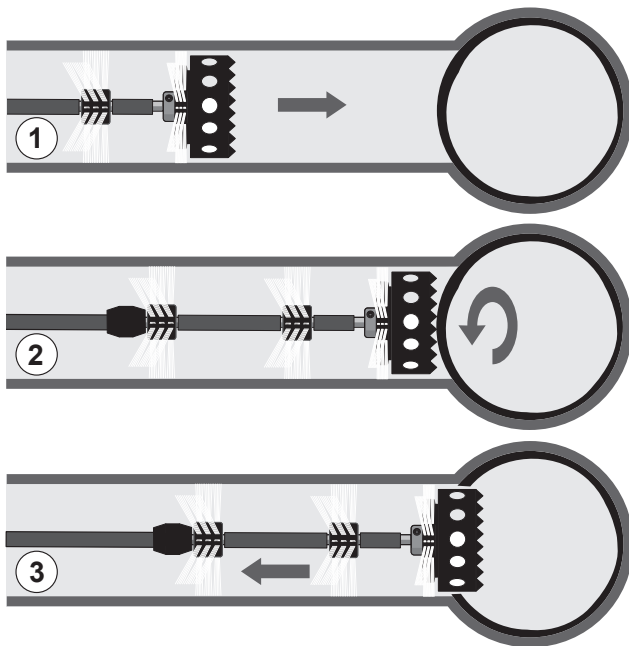

Figure 17 – Reinstatement Operation
1. Advance the cutter without the cable rotating to the reinstatement area **1**. See Figure 17.